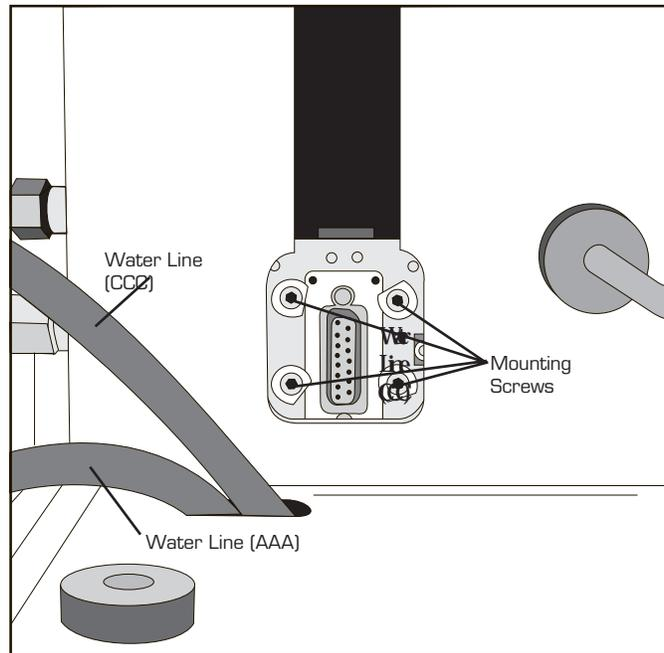

Figure D.2
4. Lay the furnace assembly down on the left side of the instrument so that the hose connections are positioned over the drip pan. Visually note the left (AAA) and right (CCC) orientation of the water lines so that you do not cross them later when they are reconnected. (See Figure D.2.) Then carefully snip the wire ties and disconnect the cooling water lines from the housing. (A small amount of cooling water will drain out into the pan when the hoses are disconnected.)
6. Remove the four mounting screws and cleats from the furnace carriage (see Figure D.2).